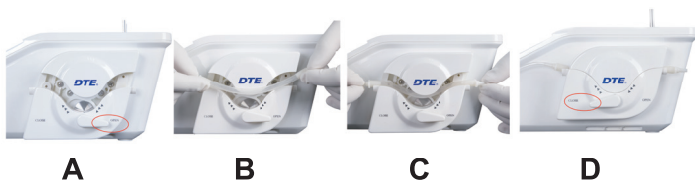

Fig.5
The foot switch of the Surgery-X(LED) must not be activated when the door of the peristaltic pump open. (Fig.5—Ref.B).Moving parts could injure the operator.
- a) Open the door(Fig.5—Ref.A)as far as it will go.
- b) Position the tube in the impeller(Fig.5—Ref.B,C).
- c) Close the door completely(Fig.5—Ref.D).
The footswitch of the Surgery-X(LED) must not be activated when the door of the peristaltic pump open. (Fig.5—Ref.A).Moving parts could injure the operator.